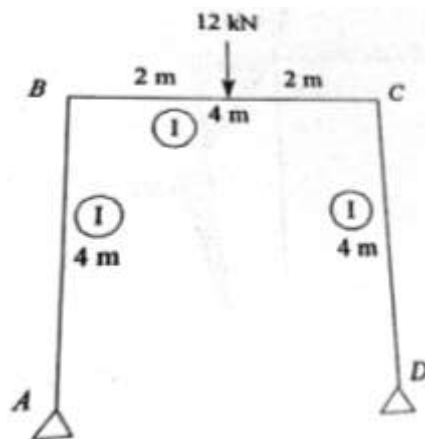

Figure-2
3. Analyse the portal frame shown in Figure-2 below. Use moment distribution method. Sketch the variation of bending moment. 16 M